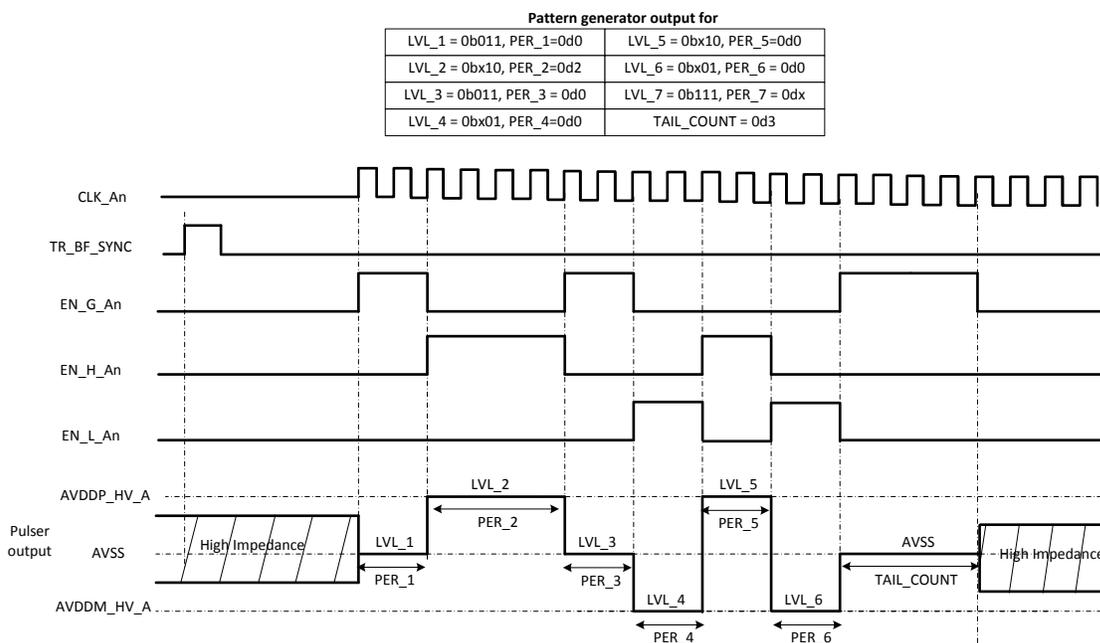

Figure 52. Pattern Generator Output for 3-Level Mode
- After finishing up the tail pattern, the pattern generator disables all the output signal and the pulser output goes to “high impedance” state. The Pattern generator remain in this state till the next TR_BF_SYNC pulse is applied. Refer to Figure 52